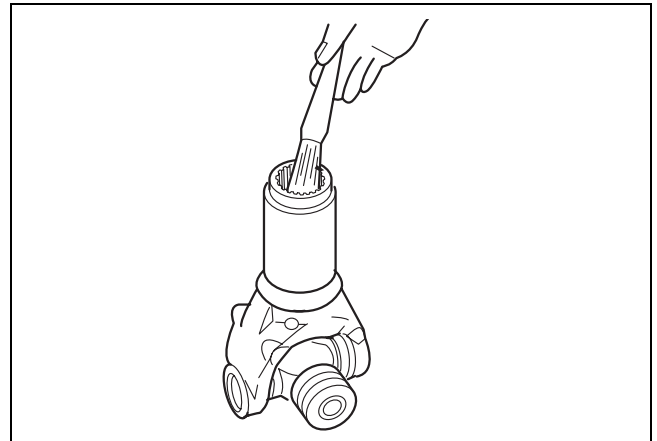

Figure 8.21
3. Use a brush to distribute lubricant on the splines. Figure 8.21.